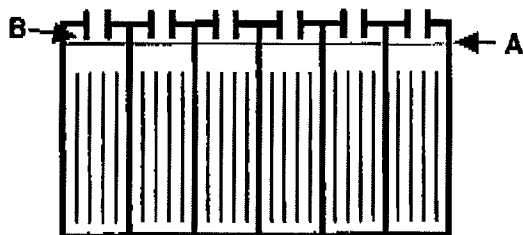

FIG. 36
9. After charging, recheck the battery fluid level (A) in each battery cell. The level should be 1 cm (3/8 in) from the bottom of sight tubes (B). Add distilled water if needed. **DO NOT OVERFILL** (Figure 36).